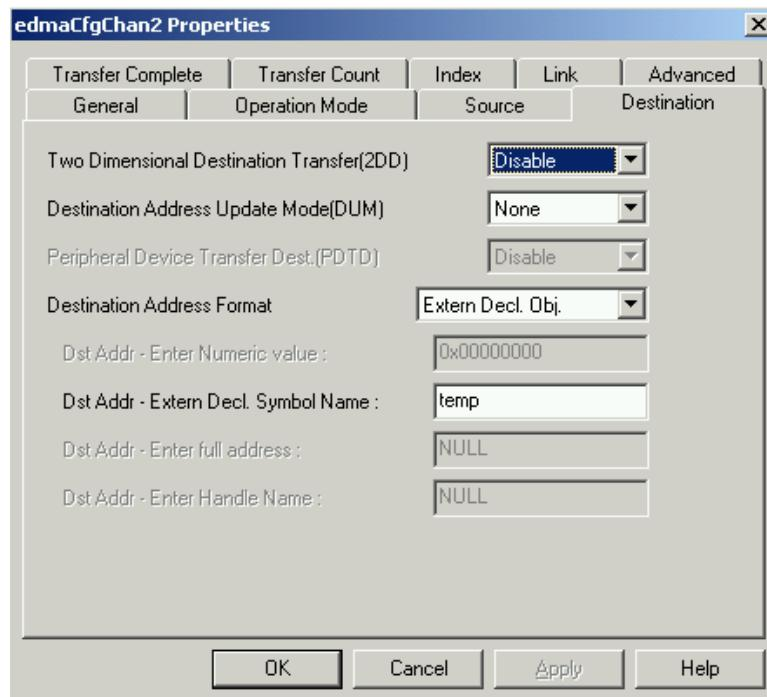

Figure 5. EDMA Chan 2 Destination Tab Options
4. In Destination tab, select the options shown in Figure 5. The 16-bit value read into by the EDMA channel is stored in the temp variable. This object is externally declared. The value on the data bus is discharged, because it is a not read from the converter.